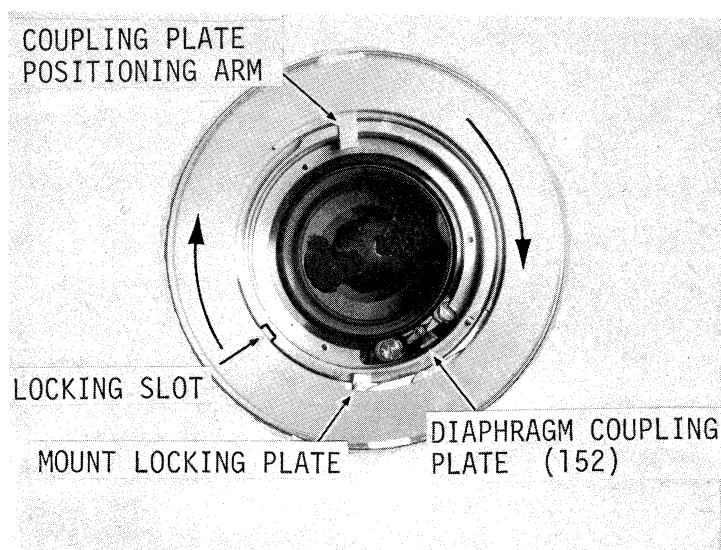

Fig. 66
13.1.3 Set diaphragm of lens to f/5.6 in "Manual" operation. Place Tool over Lens Mount as shown, then rotate it until Mount Locking Plate of Tool engages Locking Slot of Lens Mount (Fig. 66).